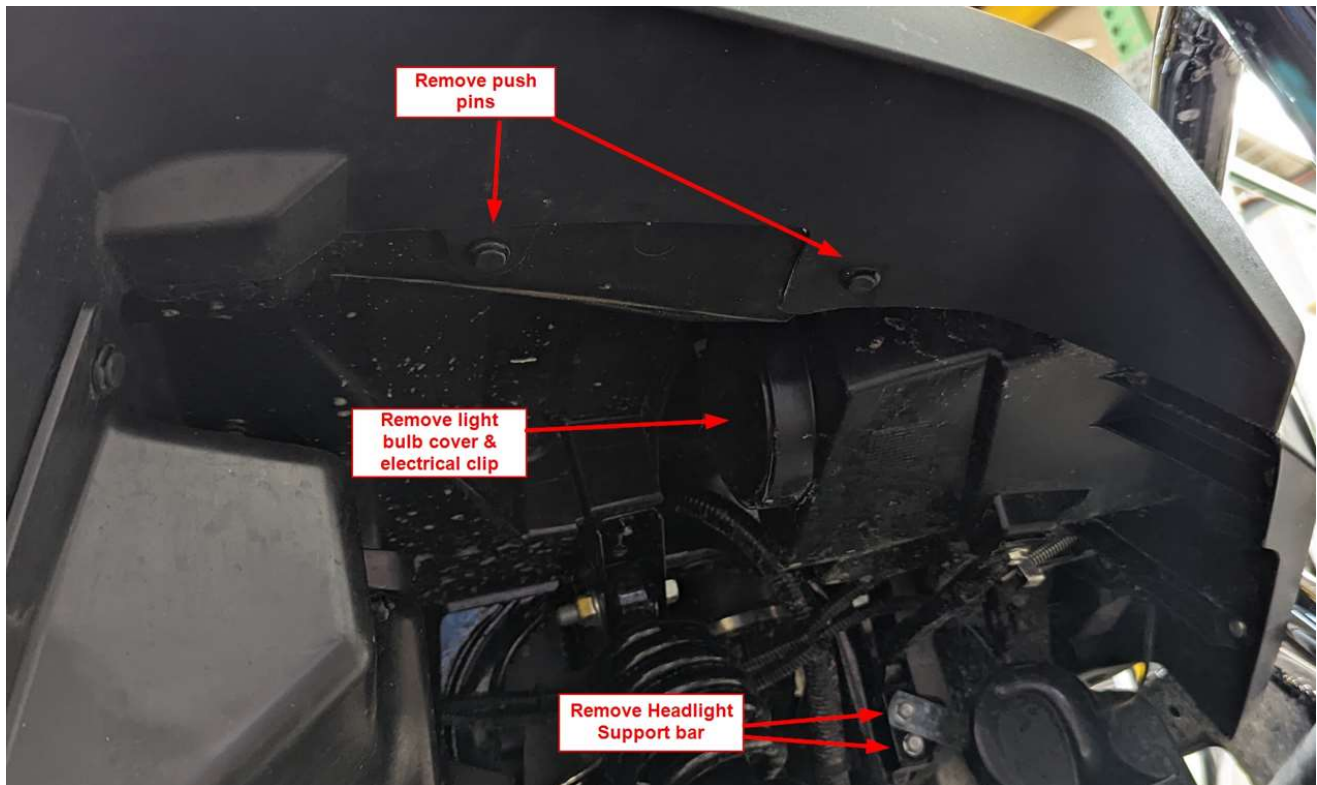

Figure 3
- e. Under both fenders remove the push pins, light bulb covers and electrical connections, and headlight support bar hardware as shown Figure 3.